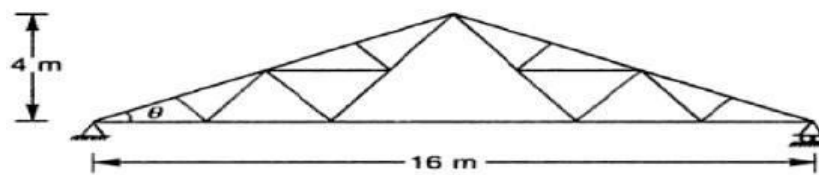

Figure 2
2. Determine the design forces in the members of the steel roof truss as shown in the Figure 2 16m span and resting on brick masonry walls. The trusses are placed 8m c/c. the rise of the truss is $\frac{1}{4}$ of the span. Roofing is of asbestos cement of dead load 171 N/ mm^2 . The wind load normal to roof truss is 940N/ mm^2 . One end of the truss is hinged and the other end is supported on rollers. [12M]